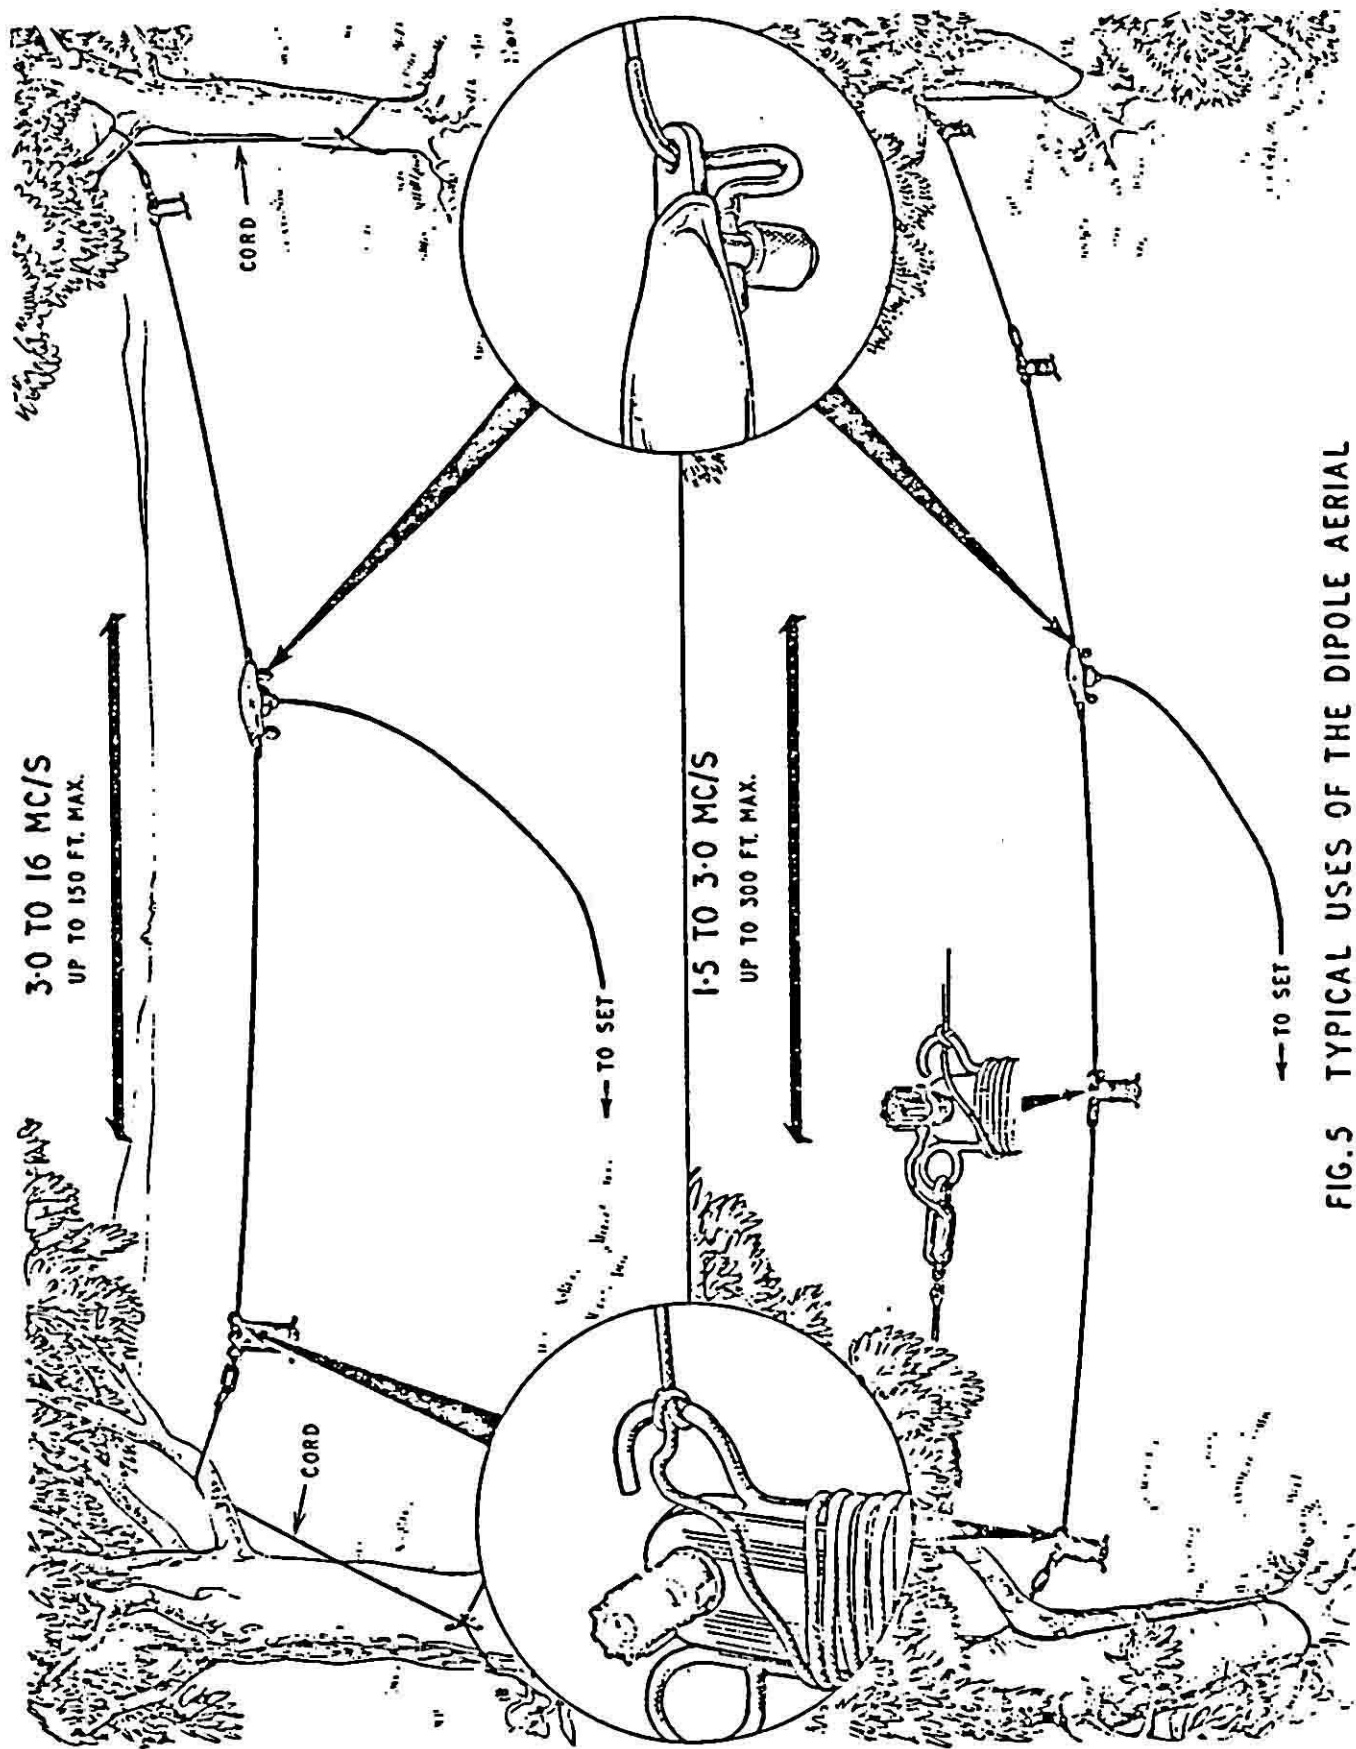

FIG. 5 TYPICAL USES OF THE DIPOLE AERIAL
- 1.4 Table 1 shows the composition of the Braid Dipole Aerial (see also fig. 5).
- 1.10 The frequency coverage of the braid dipole aerial can be extended downwards to 1.5 Mc/s by using two additional elements, one for each arm, to increase the overall length of the aerial. (See fig. 5).
- 1.12 The dipole aerial should be suspended from two masts or from other convenient supports (see fig. 5). It is recommended that the aerial be erected as high as possible and broadside to the direction in which it is required to work.
- 2.4 Insert the copper tag, attached to the free end of the braid cable, through the hole in one end of the centre junction and secure it to the nearest terminal (see fig. 5). The rubber tubing must be so positioned that it protects the braid cable from abrasion where it passes through the hole in the centre junction.
- 2.7 The aerial should now have the appearance of the aerial shown in the upper drawing of fig. 5 and may be hoisted into position using suitable lengths of cord attached to the chain insulators. It is emphasised that the aerial should be as high as possible at both ends and will give best results when erected broadside to the distant station.
- 3.1 To extend the frequency range of the aerial from 3 Mc/s down to 1.5 Mc/s, an additional Element Dipole 75 feet can be connected in series with each element of the existing dipole (see fig. 5).
- 3.3 Connect the two Elements Dipole 75 feet to the centre junction as before, then connect the free ends of the two outer sections to the terminals on the formers of the inner pair of elements. The strain on the cable of the outer sections should be taken up by tying the braid cable to the insulators of the inner sections and leaving a loop between the insulator and the terminal (see fig. 5).